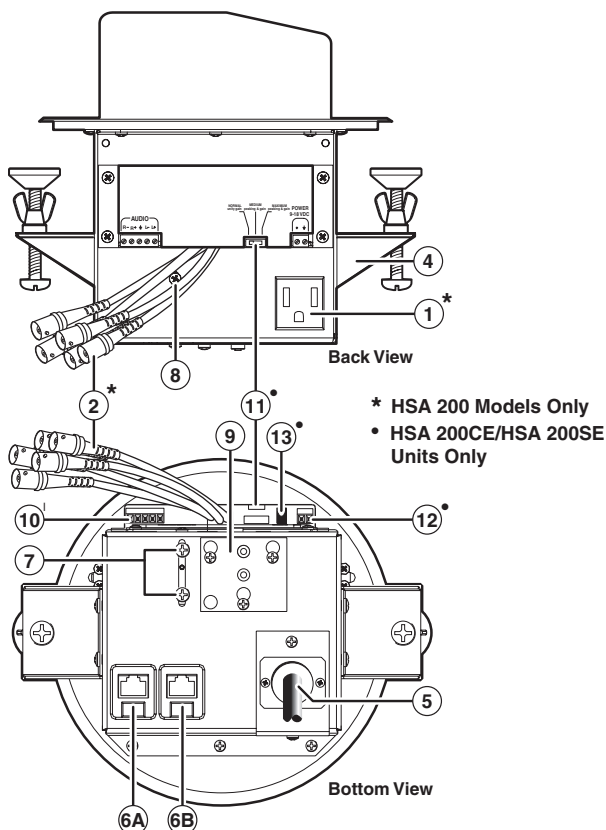
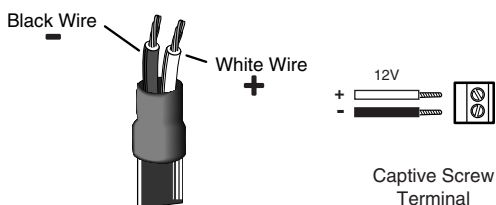

Figure 9. HSA 200CE Under-table Features
Figure 14. Power Connector Wiring
Figure 9 on the next page shows the under-table connectors and other features that present on HSA 200CE models. Other HSA 200 and HSA 222 models have a subset of the same or similar features.
1. See figure 14. Plug the input connector of the included 100-240 VAC, 50/60Hz, 12 VDC power supply into the AC power outlet on the underside of the enclosure (see figure 9, 1 on page 11).
2. Insert the external power supply (included) output wires into the 2-pole direct insertion captive screw terminal on the Extender board (see figure 14) and secure the wires.